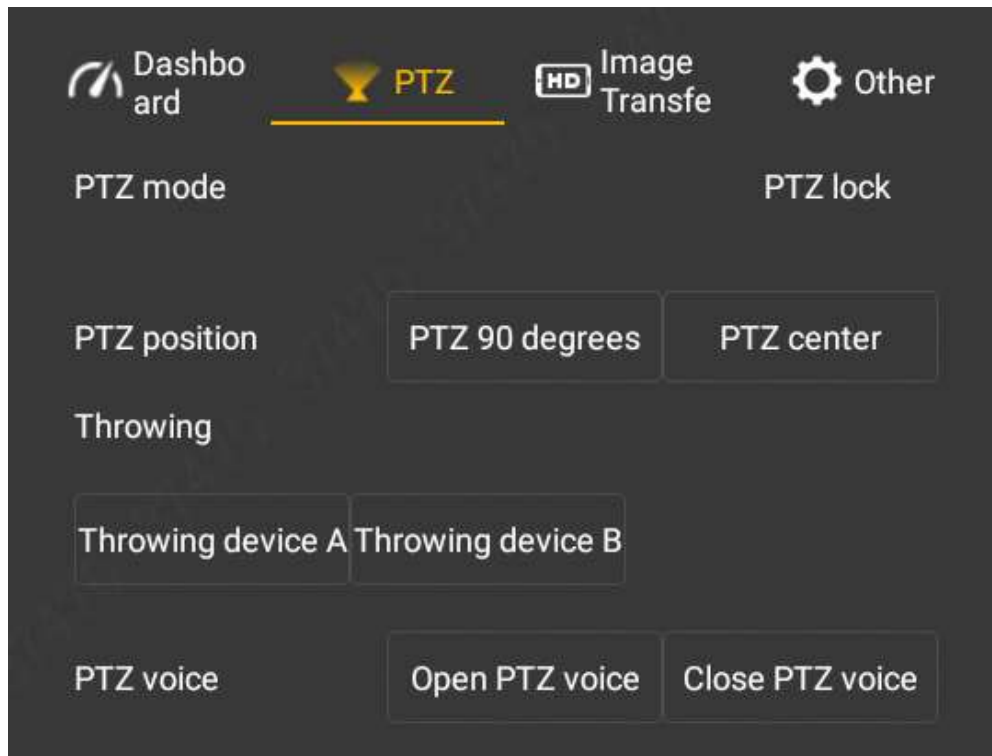

Figure 0-22
Step 1 Click "PTZ", and the system enters "PTZ" interface, as shown in Figure 0-22.